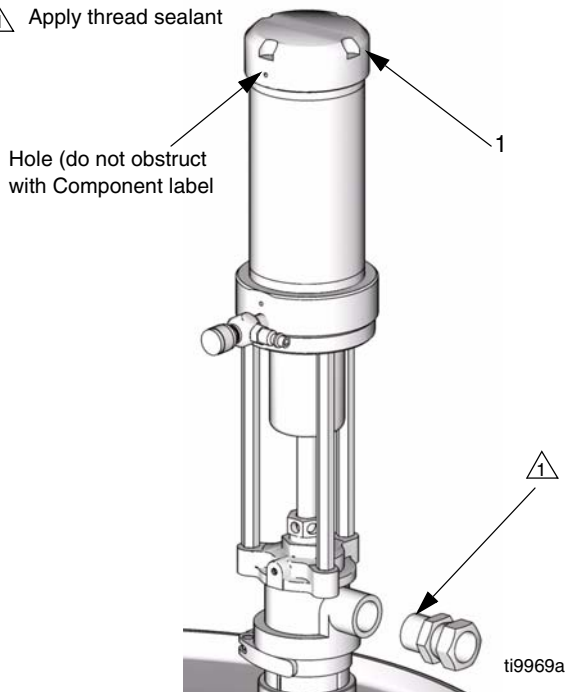
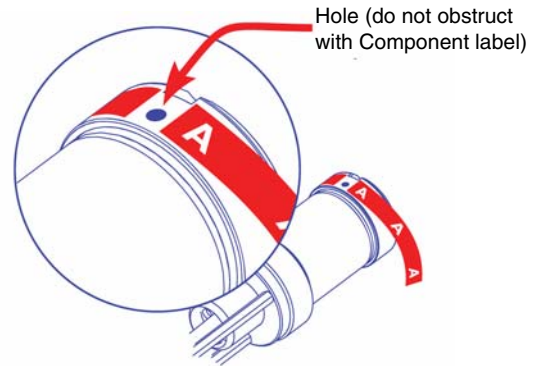

FIG. 5
FIG. 6
2. Apply thread sealant to the male outlet fitting (not supplied) and insert into the outlet port. See FIG. 5.
3. Use labels (70) provided to identify the appropriate pump for your material. See FIG. 5 and FIG. 6. When applying component labels (70) to pump cap (1) make sure you do not cover the hole in the cap.